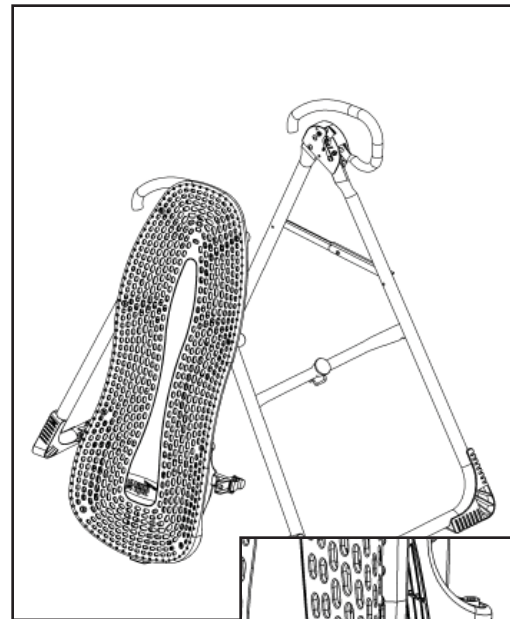

Figure 5
- For ease-of-assembly, rest the Table Bed against the side of the A-frame (Figure 5).